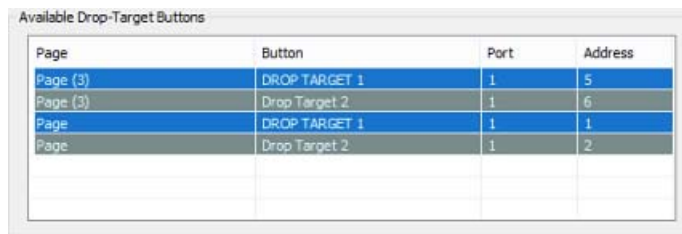

FIG. 221 Drop-Target Groups dialog - Available Drop Target Buttons window
2. All Drop Target buttons that have been created in this project (and that are not already member buttons for the selected Drop Group) are listed in the Available Drop-Target Buttons window (FIG. 221):